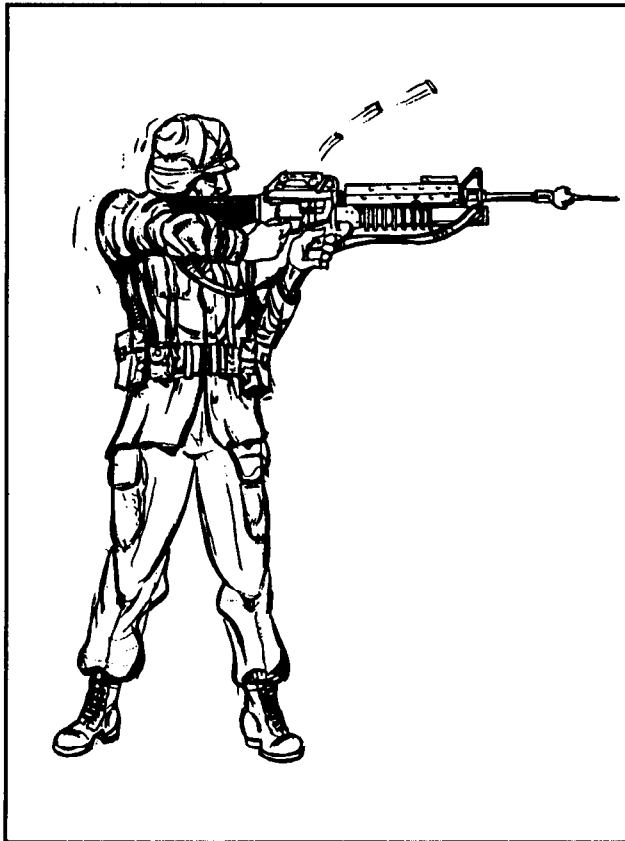

Figure 5-8. Standing position.
(8) **Standing position.** Figure 5-8 shows the standing position.